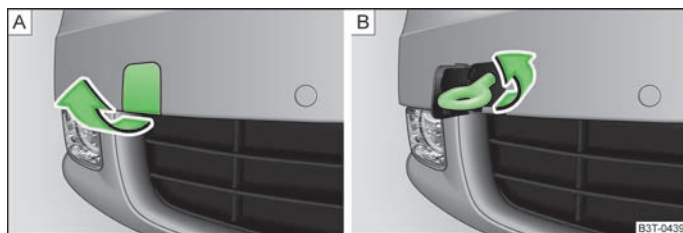

Fig. 184 Front bumper: Removing the cap/installing the towing eye
- Remove the cap from the front bumper » Fig. 184 - A.
- Screw in the towing eye by turning to the left up to the stop » Fig. 184 - B and tighten as much as possible. For tightening purposes, we recommend, for example, using the wheel wrench, towing eye from another vehicle or a similar object that can be pushed through the eye.